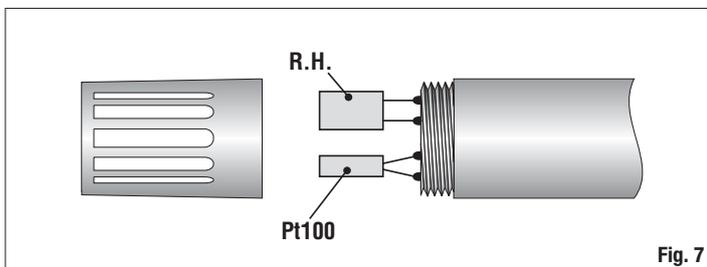

Fig. 7
- Unsolder the Pt100 sensor (the narrowest one) and in place of it, solder the output wires or those of a Pt100 simulator or of a precision resistance, as shown in figures 7 and 8. Then wait a few seconds for the junction to get cold.